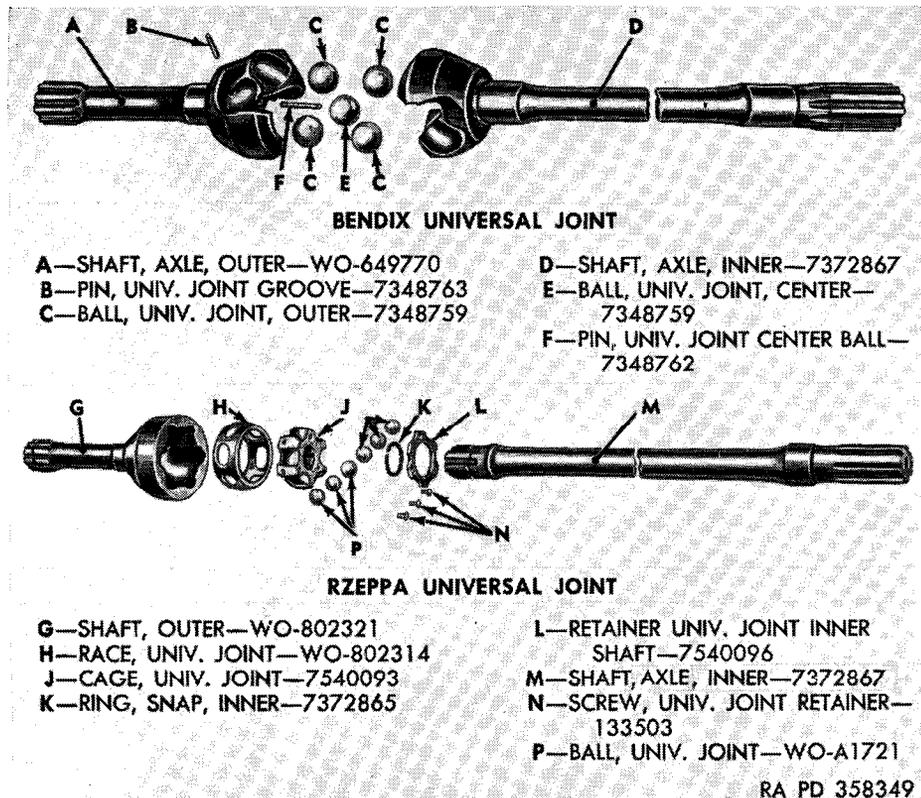
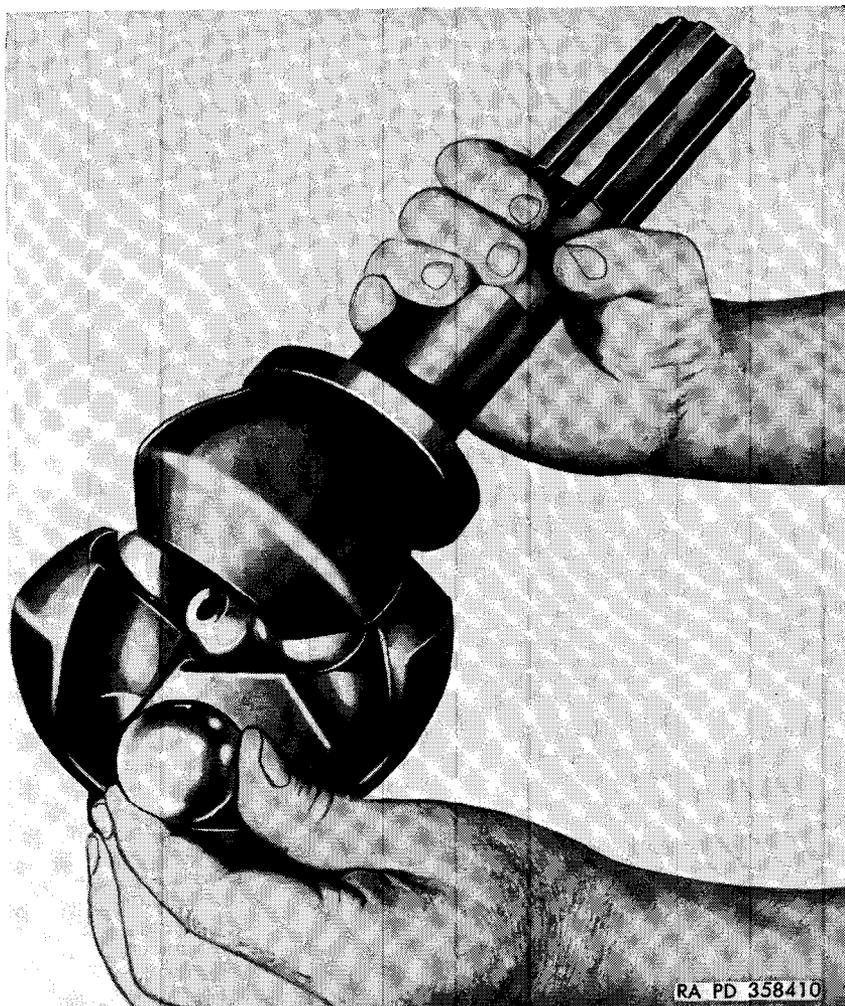

Figure 60. Front axle shafts—exploded view.
Figure 62. Removing Bendix universal joint balls.
It is not necessary to disassemble the axle shaft assembly (fig. 60) unless check for excessive play or backlash (*b* below) indicates wear which may require replacement of parts or further inspection (par. 99d(1)). If necessary to disassemble, proceed as outlined below.
d. Dislodge Center Ball Pin. After removing universal joint groove pin (*c* above), hold the axle shaft assembly in a vertical position and bounce on a block of wood until the universal joint center ball pin (F, fig. 60) drops clear of the universal joint center ball (E, fig. 60).
e. Remove Universal Joint Balls (fig. 62). Place the axle shaft with the outer end in a vise. Bend the axle shaft so the universal joint center ball (E, fig. 60) can be rotated until the grooved surface of the ball is facing the first universal joint outer ball (C, fig. 60) that is to
It is not necessary to disassemble the axle shaft assembly (fig. 60) unless check for excessive play or backlash (*b* below) indicates wear which may require replacement of parts or further inspection (par. 112). If necessary to disassemble, proceed as outlined below:
c. Remove Inner Axle Shaft (fig. 60). Remove the three flat-headed universal joint retainer screws (N) that secure the universal joint inner shaft retainer (L) to the universal joint race (H). Slide the inner axle shaft (M) out of the universal joint cage (J).